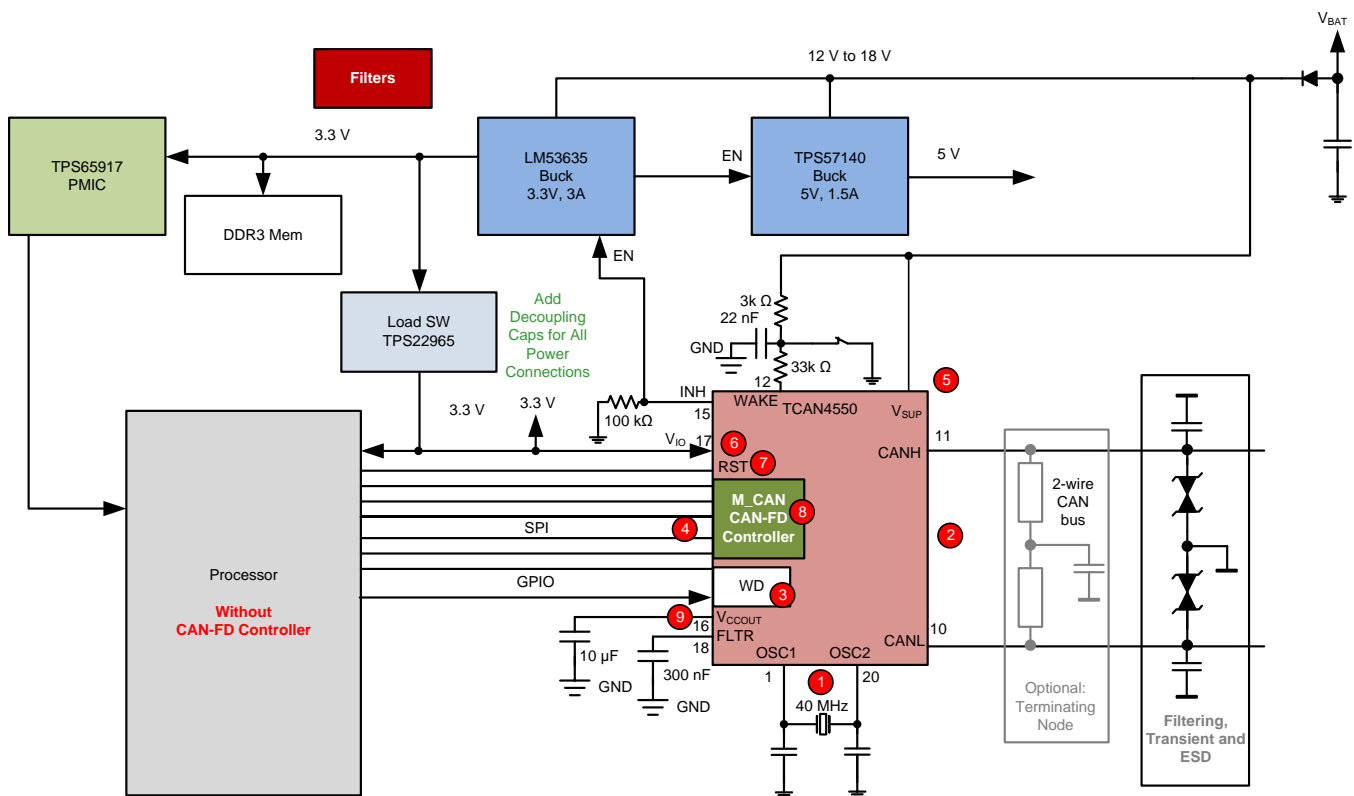
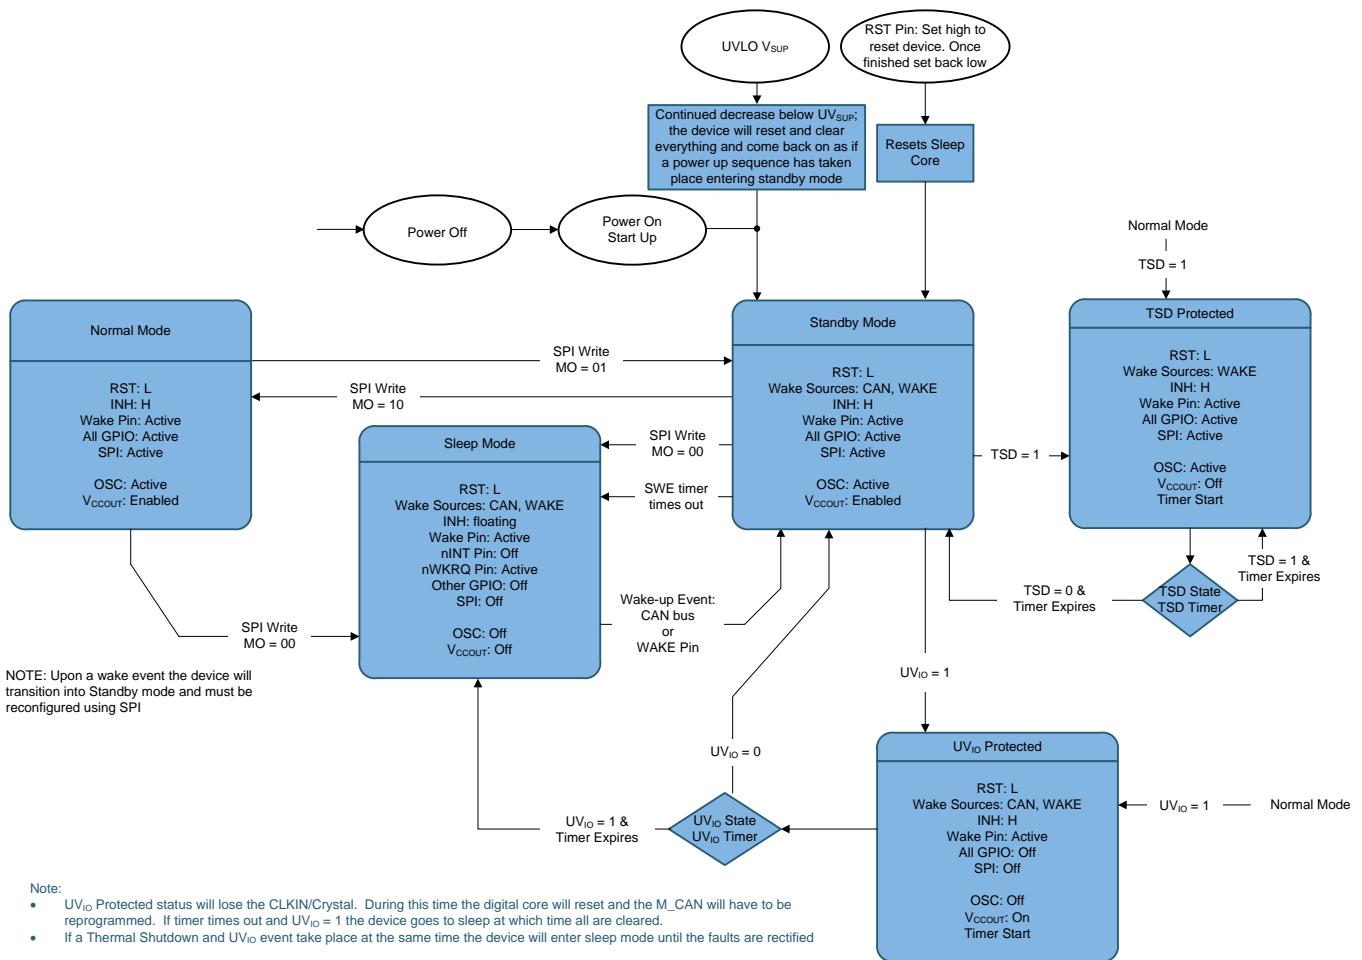

Figure 5. Potential Failure Points
Figure 6. State Diagram
Figure 5 provides potential failure points that have diagnostic or test ability mechanisms. See Table 1 for each potential failure point and subsection discussing this failure point.
Table 1. Potential Failure Points and Section Figure 5
The TCAN4550-Q1 device has several features that determines specific fault conditions in a system and indicate this back to the processor or place the device into a protected state that may include Sleep mode. Figure 5 is used to indicate these fault conditions. Figure 6 provides the devices state diagram and shows two protected modes and Sleep mode.
The TCAN4550-Q1 state diagram figure, see Figure 6, shows the biasing of the CAN bus in each of the modes of operation.
The sleep wake error (SWE) timer is a four minute timer that is used to place the device into Sleep mode due to certain faults. The SWE timer is used to help mitigate certain faults shown by items 1, 4, 5 and 6 in Figure 5 and is considered safety mechanism SM-01.
The TCAN4550-Q1 has a temperature monitor located by two components that can cause thermal issues; V_{CCOUT} LDO and CAN transceiver. This is a device protection mechanism. When TSD temperature is reached, the device enters the TSD protected state as shown in Figure 6. In this state, the V_{CCOUT} LDO is turned off and the CAN transceiver is disabled. This helps mitigate bus communication fault, shown as 2, and V_{CCOUT} issues, shown as 9, in Figure 5 and is considered safety mechanism SM-05. Undervoltage lock out prevents operation of the device and communication with the MCU and the CAN FD Bus when there is insufficient power on V_{SUP} , V_{IO} or V_{CCOUT} .